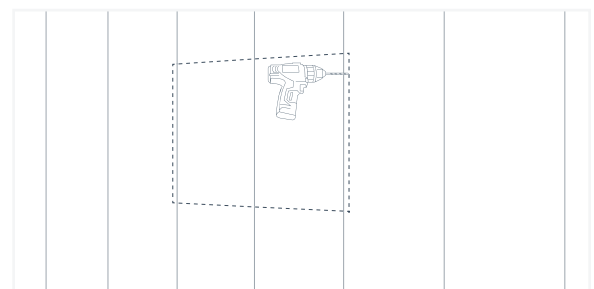

Fig. 60
4. Using a drill or hole saw, cut holes where the mounting points are located. Mounting holes should be large enough so the spacers fit inside and slightly oversized to accommodate expansion and contraction of the surrounding panels. (Fig. 60)